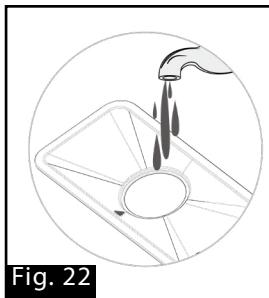

Fig. 22
3. Use water to flush the filter assembly (Fig. 22). Do not use steel wool or an iron brush. It will cause the filter to rust.